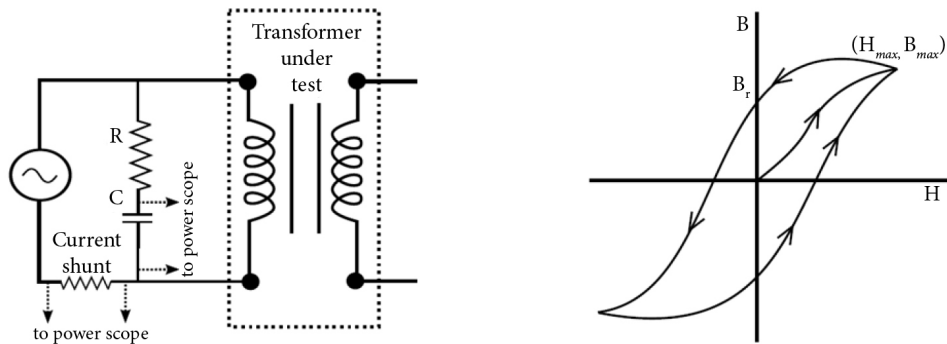

Fig.P3.1(a): Connections to trace B-H Curve **Fig. P3.1(b):** B-H Curve
1. Connect the apparatus as per the circuit shown in fig. P3.1(a).
4. Connect a CRO across the terminals marked dotted and adjust its knobs to obtain the curve shown in fig.P3.1(b).